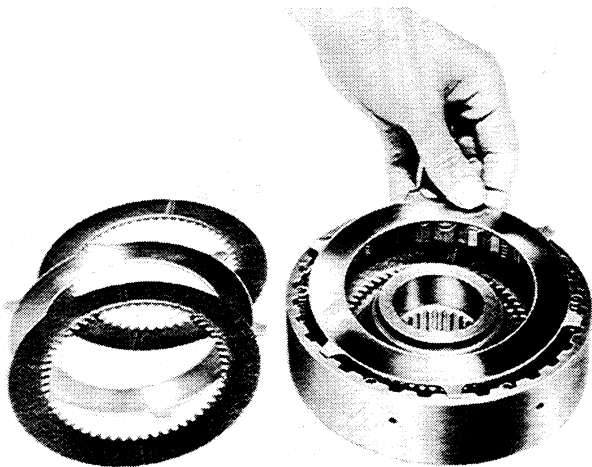

FIG. 23
16. Fig 23. Refit the three friction plates (48) and the remaining two interplates alternately, locating the lugs on each interplate one spline further to the right of one previously fitted.